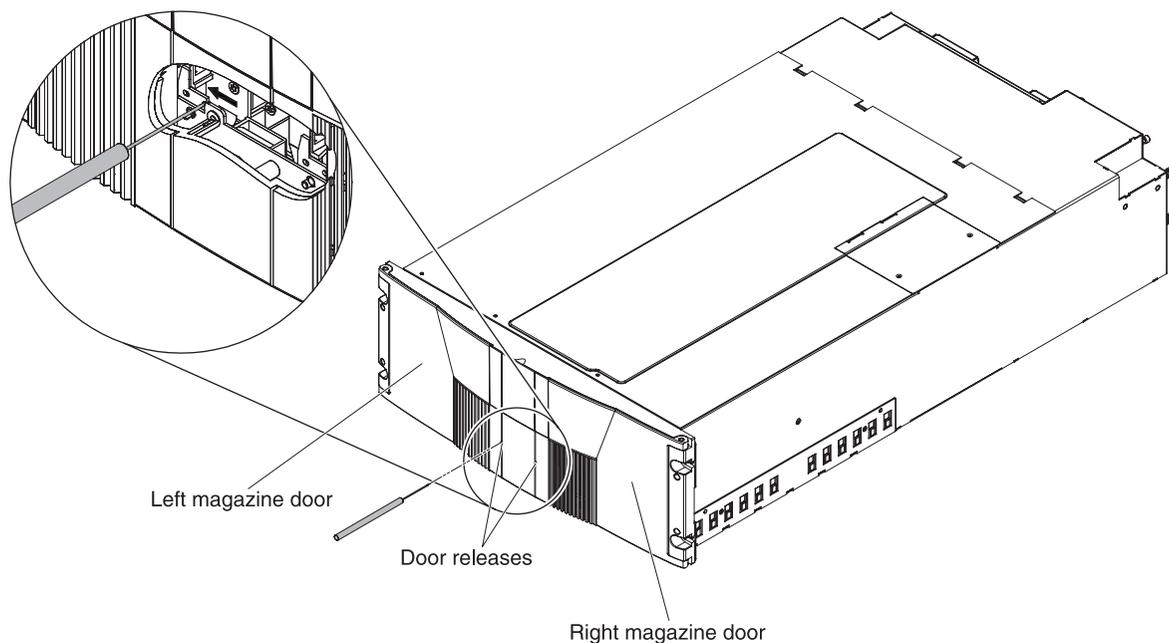

Figure 10. Opening the left and right magazine access doors
- Open the magazine access doors by inserting the metal pick, which is included with the library accessory kit, into the release holes as shown in Figure 10 and trip the magazine door release for both the right and left magazine doors. The magazine access doors open.